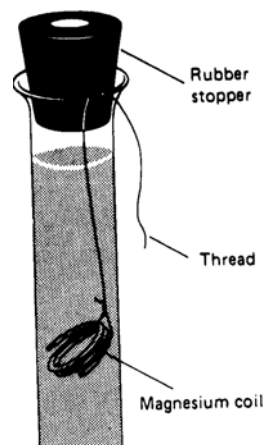

Figure 1
8. Lower the Mg coil into the water in the eudiometer tube to a depth of about 5 cm. Insert the 1-hole stopper into the eudiometer to hold the string in position. See figure 1. The stopper should displace some water from the tube to ensure that no air is left inside the tube.